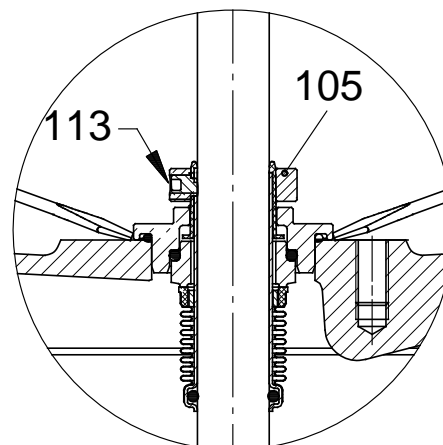

Fig. 3 Shaft seal
Clean the shaft end. Slacken the three screws (pos. 113) so that they do not touch the shaft. See fig. 3.
Loosen the shaft seal (pos. 105) from the pump head using two screwdrivers. See fig. 3. Pull it off the shaft.
Loosen the screws (pos. 113), see fig. 3, and the shaft will drop slightly. Lift the shaft up again to top position using the lifting tool (pos. F), and tighten the screws (pos. 113), see fig. 3, on the shaft seal. Remove one of the forked distance pieces (pos. D) and the lifting tool (pos. F).